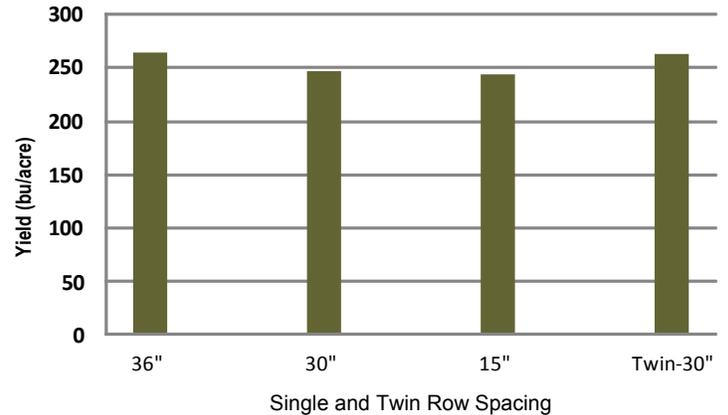

Figure 2. Yield response of corn to 15-, 30-, and 36-inch single row and 30-inch twin row spacings at the Monsanto Learning Center at Gothenburg, NE 2010.
The Monsanto Learning Centers have conducted demonstrations comparing various single and twin row spacings. The three-year average (2008-10) from demonstration plots at the Monsanto Learning Center at Gothenburg, NE, the 30-inch twin row spacing and a single row 36-inch spacing both out yielded the 15- and 30-inch single row configurations (Figure 2). A similar non-replicated, one-year demonstration conducted at the Monsanto Learning Center at Scott, MS compared a 114 relative maturity (RM) corn product and a 116 RM corn product at 30- and 38-inch single row spacings and 38-inch twin row spacings (Figure 3). The study indicated that the 30-inch single rows had the highest yield potential, but growers can increase yield potential with narrow rows if a corn product is selected that responds to higher plant populations. The contrasting results of these studies indicate the variable nature of yields from year-to-year in different row spacings. However, the most important decisions to make, regardless of row spacing, are product selection with relation to planting population.